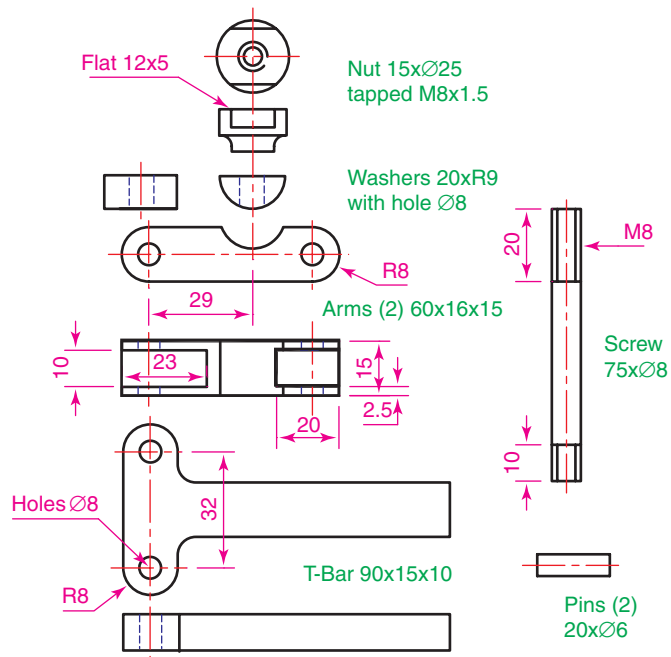

Fig. 14.1 The components of a lathe milling wheel holder
1. Construct 3D models of the parts for a lathe milling wheel holder to details as given in Fig. 14.1, each on a layer of different colours.
2. Save each of the 3D models of the parts to file names as given in Fig. 14.1 as blocks using **Create** from the **Insert/Block** panel. Save all seven blocks and delete the drawings on screen. Save the drawing with its blocks to a suitable file name (**Fig01.dwg**).